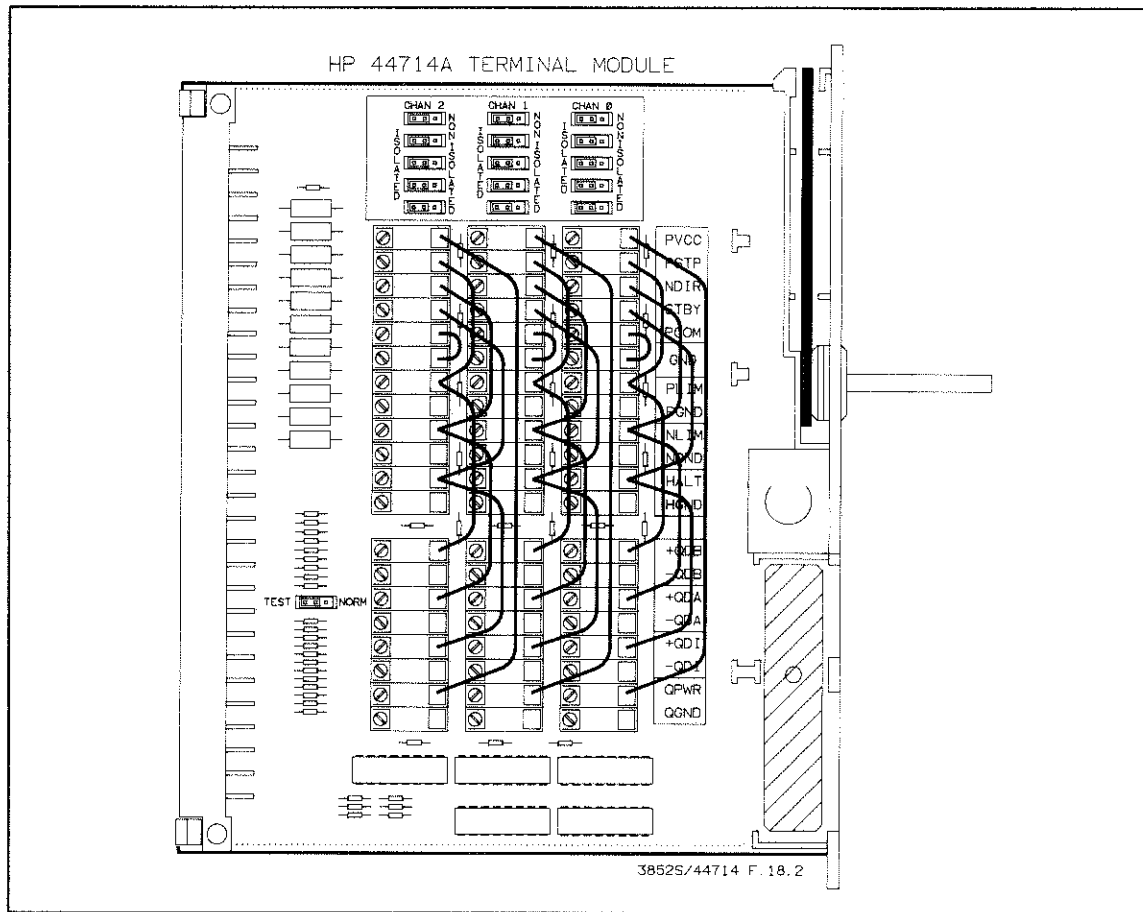

Figure 18-2 HP 44714A Test Fixture
1. Use the wired test fixture shown in Figure 18-2 for the self-test. Make sure the NORM/TEST jumper is in the test position.
2. Locate the ISOLATED/NON ISOLATED jumpers on the terminal module (see Figure 18-2). If ONLY the Operational Verification Test is to be performed, place the jumpers in the position in which the accessory is to be used (e.g., NON ISOLATED for non isolated output, etc.). If the complete performance test is to be performed, place the jumpers in the ISOLATED position as shown in Figure 18-2.
1. Make sure the NORM/TEST jumper is in the test position as shown in Figure 18-2.